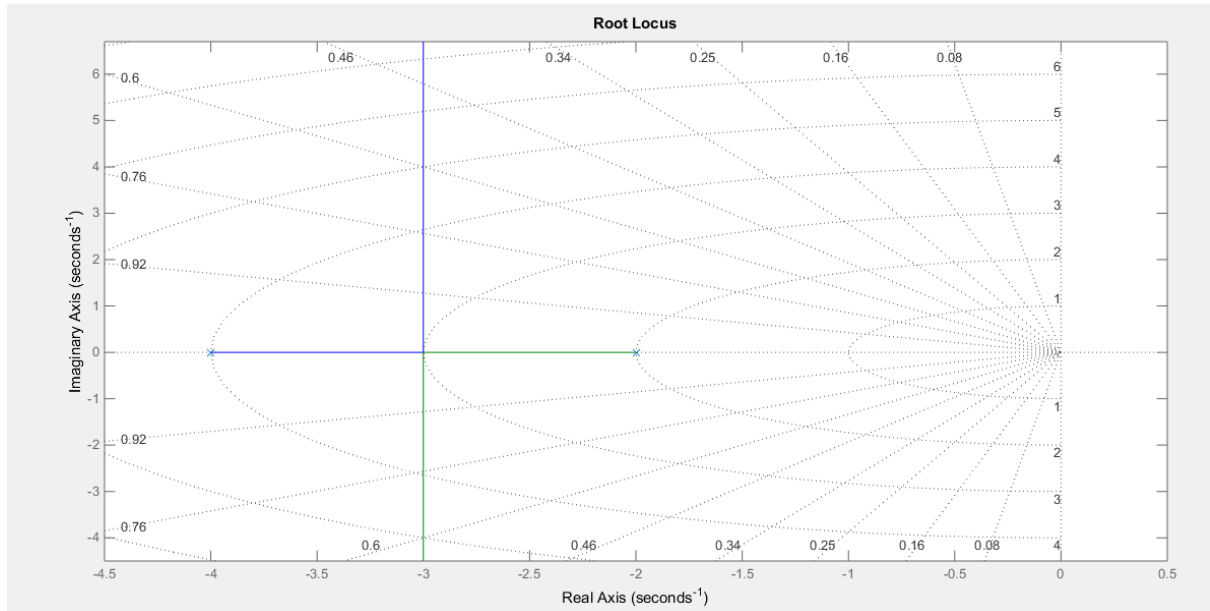

Figure 10
- 5B. The root locus of the plant is given in the figure 10. Design a lag compensator for a plant with 4